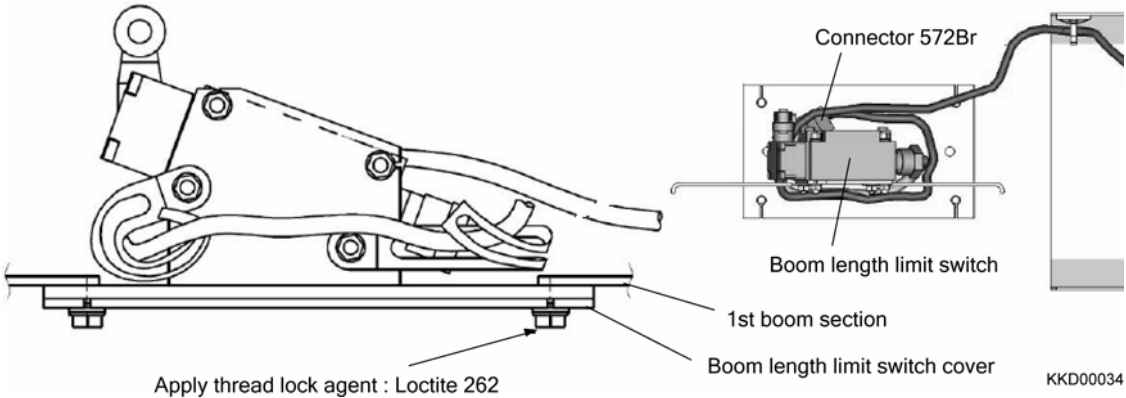

Fig. 2-68
13) Connect the cable for Boom length limit switch (Connector 572Br) ,Set the cable as shown in Fig. 2-68 to prevent the cable from interference with bottom of 2nd boom section and then install the boom length limit switch cover